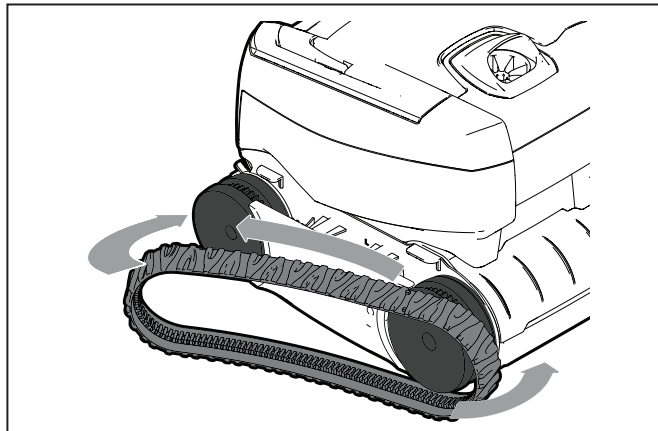

Figure 24. Stretch Track Around Wheels
3. To install a new track, place the inside rib of the track into the groove in the first wheel. (See Figure 24.)
4. Stretch the track around the second wheel (see Figure 24). Push and position the rib of the track so that the track is seated properly in the groove of the wheel.